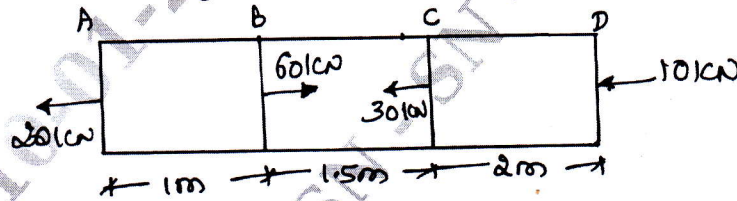

Fig.Q.1(b)
- b. A brass bar, having cross-sectional area of 2000 mm^2 , is subjected to axial forces as shown in Fig.Q.1(b). Find the total elongation of the bar. Take $E = 1.05 \times 10^5 \text{ MPa}$.